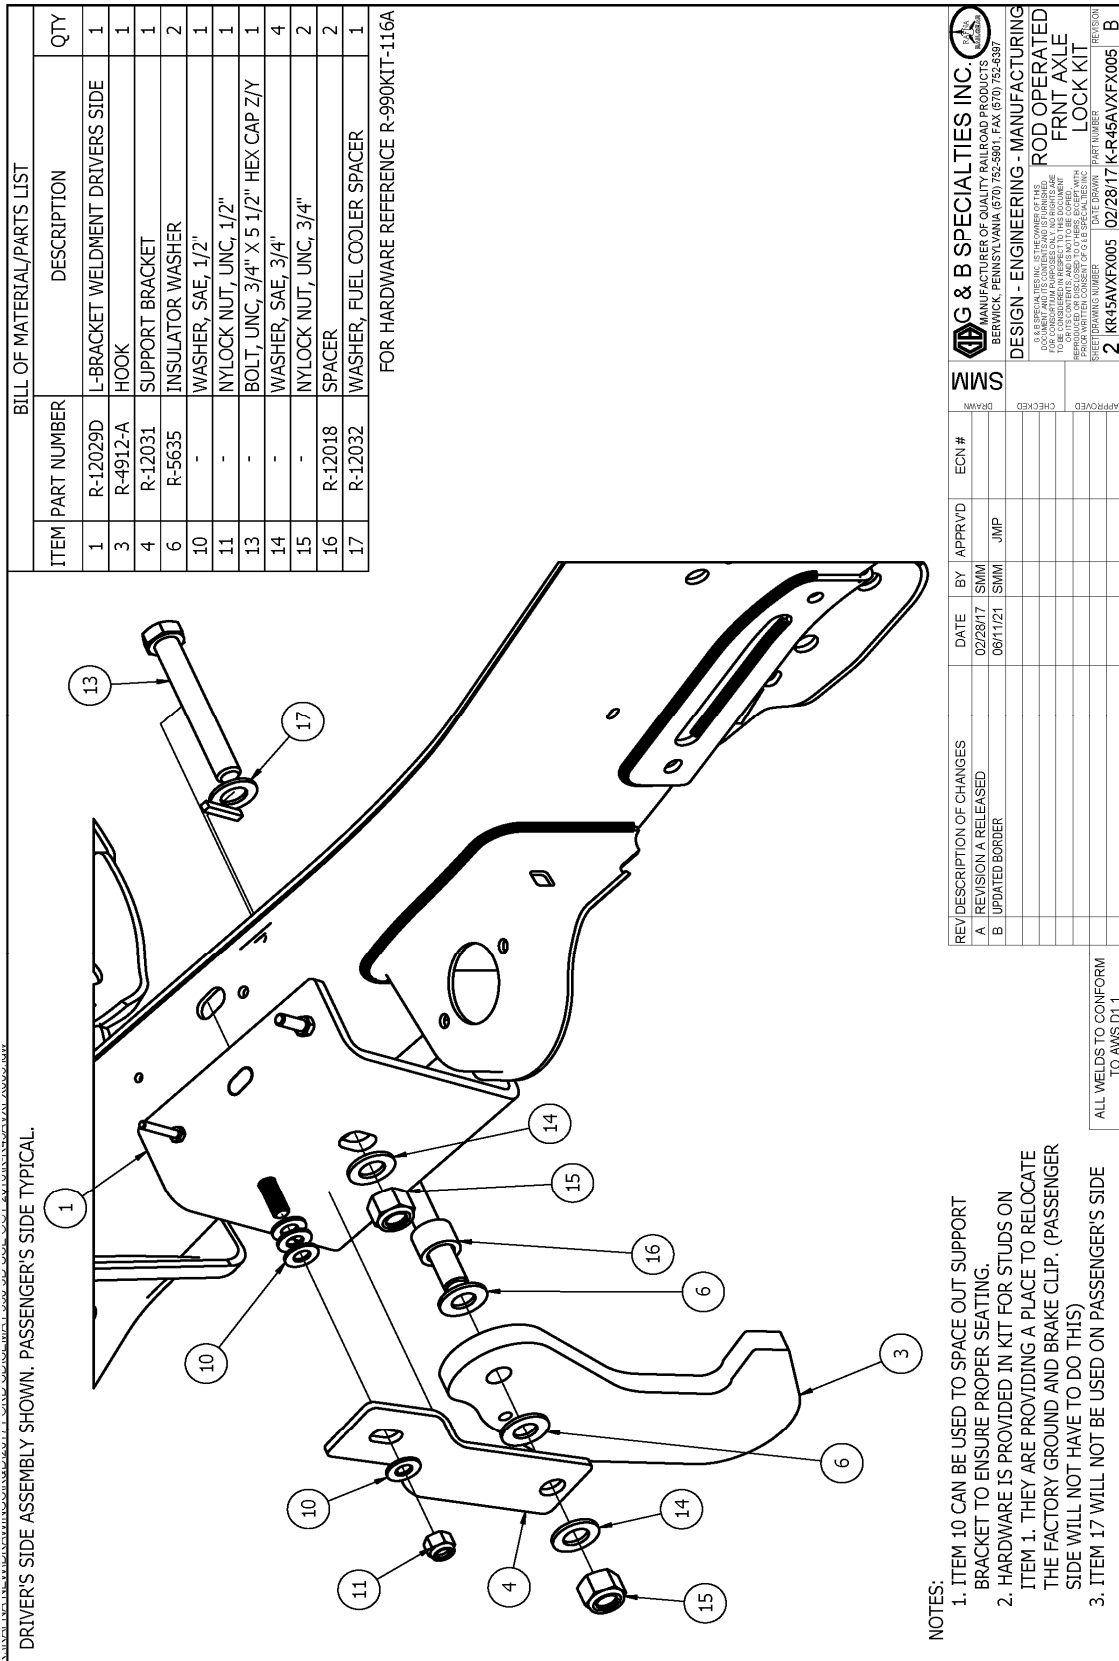

Figure 2
6. Assemble the hook, R-4912-A, and bracket, R-12031, onto the all thread and stud as shown in Fig. 2. If lateral adjustment is required supplied spacer can be trimmed down, or washers can be added into assembly to maintain proper clearance with frame, suspension arm, and hook. Nylock nut should be tightened enough to secure hook, but not hinder it from swinging.